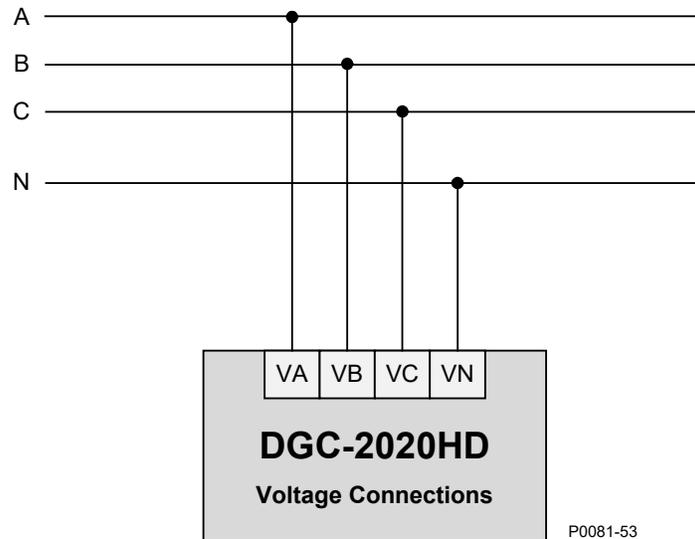

Figure 3-2. 3-Phase Wye Bus Voltage Sensing Connections
- Three-phase wye Figure 3-2
Although three-phase wye sensing connections are shown in the breaker control diagrams, other bus voltage sensing configurations (figures 3-2 through 3-5) may be used instead.
Figure 3-2 illustrates typical three-phase wye connections for all DGC-2020HD bus voltage sensing connections: Generator, Bus 1, and Bus 2. Use the terminal numbers listed below for connecting the desired bus type. Refer to the *Terminals and Connectors* chapter for rear panel terminal numbering.